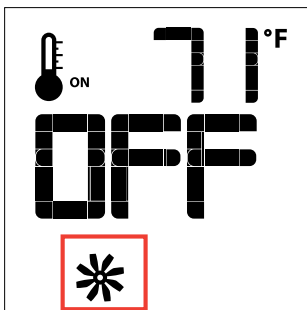
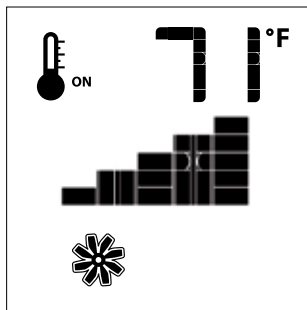

Figure 13
Figure 14
If the appliance is equipped with a hot air circulating fan, the speed of the fan can be controlled by the Proflame system. The fan speed can be adjusted through six (6) speeds. To activate this function use the Mode Key (fig.1) to index to the fan control icon (Fig. 13). Use the Up/Down Arrow Keys (fig.1) to turn on, off or adjust the fan speed (Fig. 14). A single "beep" will confirm reception of the command.